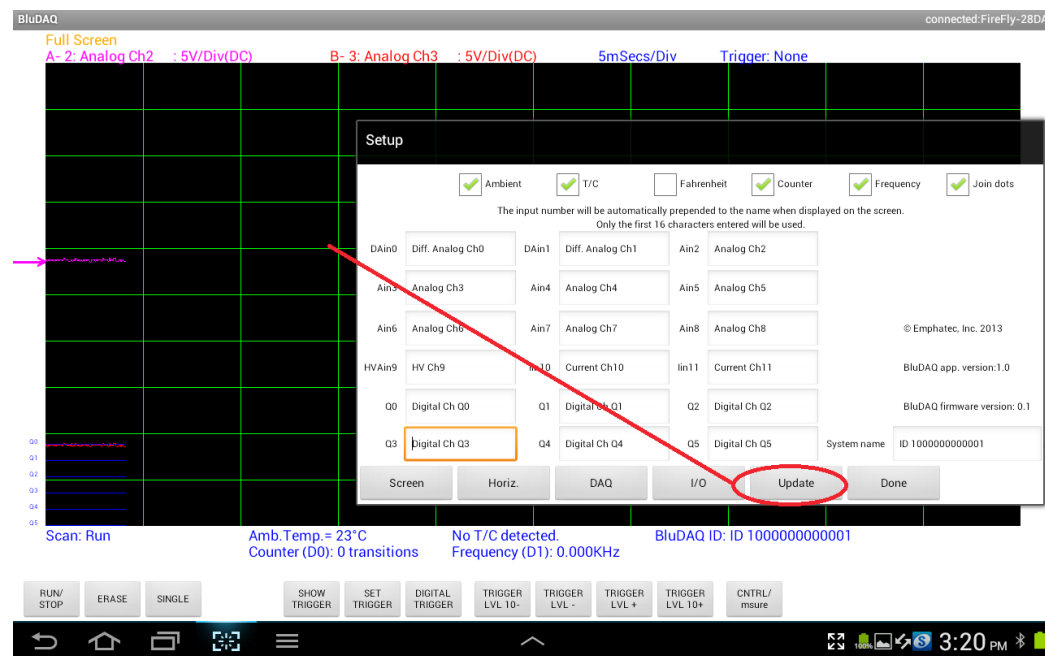
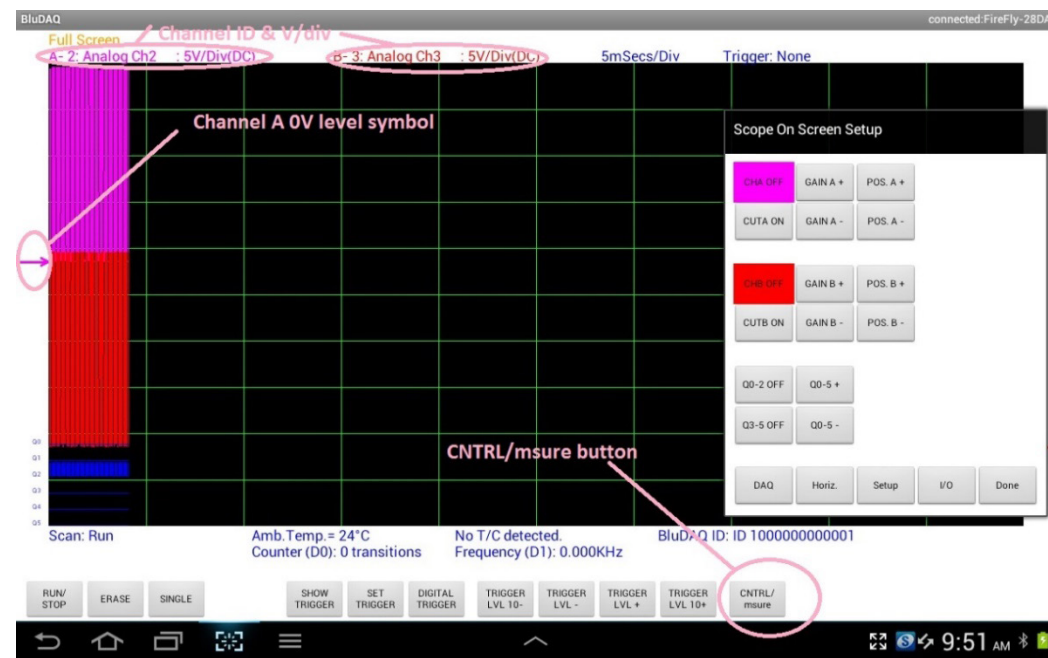

Figure 9: The information is only updated when the UPDATE button is touched.
Figure 15: Vertical Control
24. Enter the unit ID number and the names of each of the inputs that you recorded earlier. The ID number will help you identify the module if you have more than one especially if you are documenting all your readings. The input names will appear on the screen when the channel is accessed so that you don't have to look up a cross reference to see what the input is displaying. You are limited to 16 characters per channel. You can enter more, but the name will be truncated to the first 16 characters. The channel input number is automatically prefixed, so you don't need to add that, nor can you remove it and is not included in the 16 character limit (Figure 9)
Channel A Settings controls the input multiplexer to channel A. The text that appears here is set up on the *SETUP* menu as shown in Figure 9. On the spinner in the *Channel A Settings*, select an input that has some signal on it and set the gain to the desired value although $G=1$ is the best place to start. (It would have been nice to modify the options on the gain spinner according to the channel selected on the first spinner. A shortcoming in the Android development environment prevents this being done simply.) Choose if you want the signal to be *AC* or *DC coupled*. AC coupling works best at $G=1$ as a result of trade-offs that have been made to reduce the hardware footprint. If you have another input (or even the same input) you can route it to channel B in the same way using the *Channel B Settings* spinner.
the screen that it sometimes works better.) We want the *Scope On Screen Setup* menu. If it is not up, tap on the *Screen* button of whatever menu pops up (See Figure 15). Changing properties on this screen does not change anything on the DAU, it only affects how you see the data.
Channel 0 and 1 are intended for low voltage inputs, but will withstand high common mode voltages. The can be set to AC coupled, but the reading will be offset. In this state the */Div* setting (described later in Figure 15: Vertical Control) will appear as ---V.
The HV input can be configured as AC coupled, but the gain of the signal will likely be wrong although it is not bad for a gain of (set as raw) 1. The */Div* setting (described later in Figure 15: Vertical Control) will appear as ---V in this event.
The current inputs I10 and I11 are hall-effect and therefore can detect AC or DC current passing in each sensor. The DAU can be set to AC or DC coupled- there is no difference. Each input can measure a positive or negative DC current or AC. It is only calibrated for input gain g=1. If you select a different gain the */Div* setting (described later in Figure 15: Vertical Control) will appear as ---A in this event.
The *POS A+* and *POS A-* (or *POS B+* and *POS B-*) move the vertical position of channel A (or B) up or down. The 0V position is indicated on the screen by an arrow. For Channel A, it is a purple arrow in the left margin, visible in Figure 15. For Channel B it is a red arrow in the right margin, which is hidden behind the menu in Figure 15.
If you look at the top margin of the display (Figure 15) you will see the channel identifier (in purple for Channel A and red for Channel B) and the description created in Figure 9 along with the volts per division setting.
On the extreme right of the first line of the lower margin is the BLUDAQ® ID. This is a string stored in the DAU to help identify the unit to the operator. In the case of where there are several DAUs in a factory it is helpful in knowing what the associated function is especially when documenting the results. This is entered in the System name block of the Setup menu as seen in Figure 9.